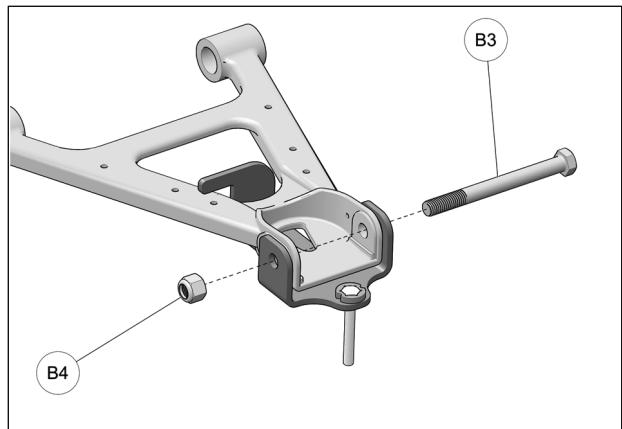

Fig. 8
7. Insert the new 5/8-11 bolt (B3) in the anchor bracket, through the lower suspension arm and the wheel hub. Secure assembly using the new 5/8-11 nut (B4) provided. Tighten bolt to 108 N·m [80 lb·ft].. See Fig. 8